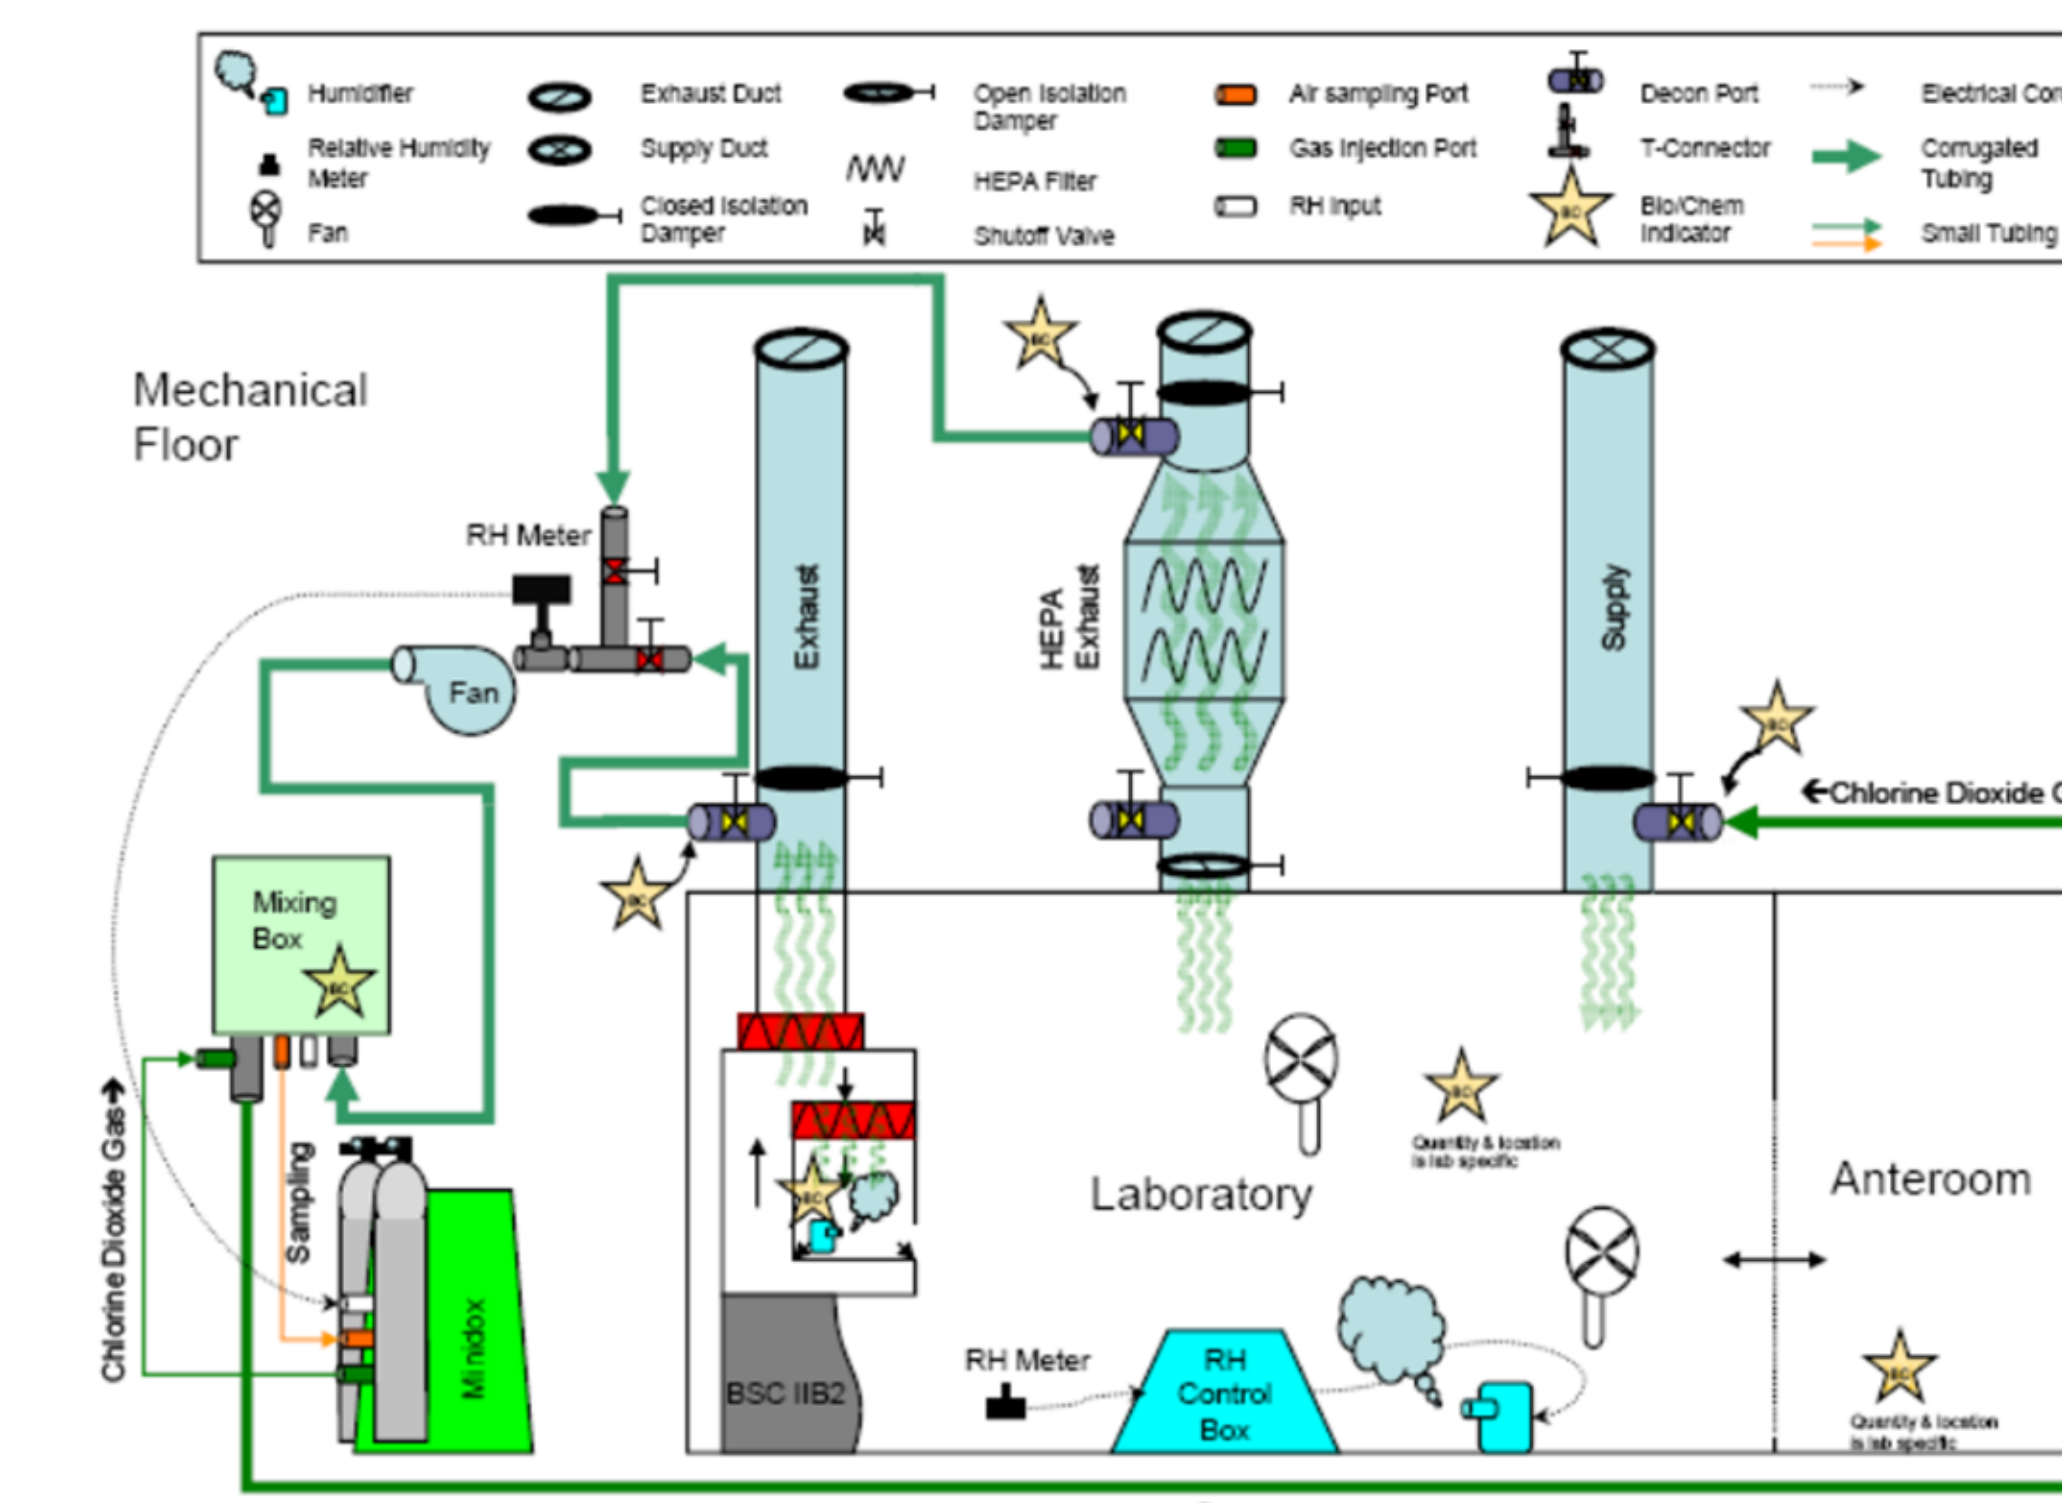

Figure 4. Closed loop system used at BRI (CD gas set-up shown).
CD gas and VHP are delivered to each space in a closed-loop system as shown in Figure 4. Both sterilants are delivered to the room via decontamination ports installed in the supply and exhaust duct work (Figure 5A and 5B). Air is circulated in the room with oscillating and/or stationary fans (Figure 6A and 6B). *B. atrophaeus* (CD) and *G. steierothermophilus* (VHP) BIs and sterilant-specific CIs are labelled and hung in pairs throughout the room using blue painter's tape (Figure 7A and 7B). An example of a room schematic used to determine BI/CI placement is shown in Figure 8A and 8B.